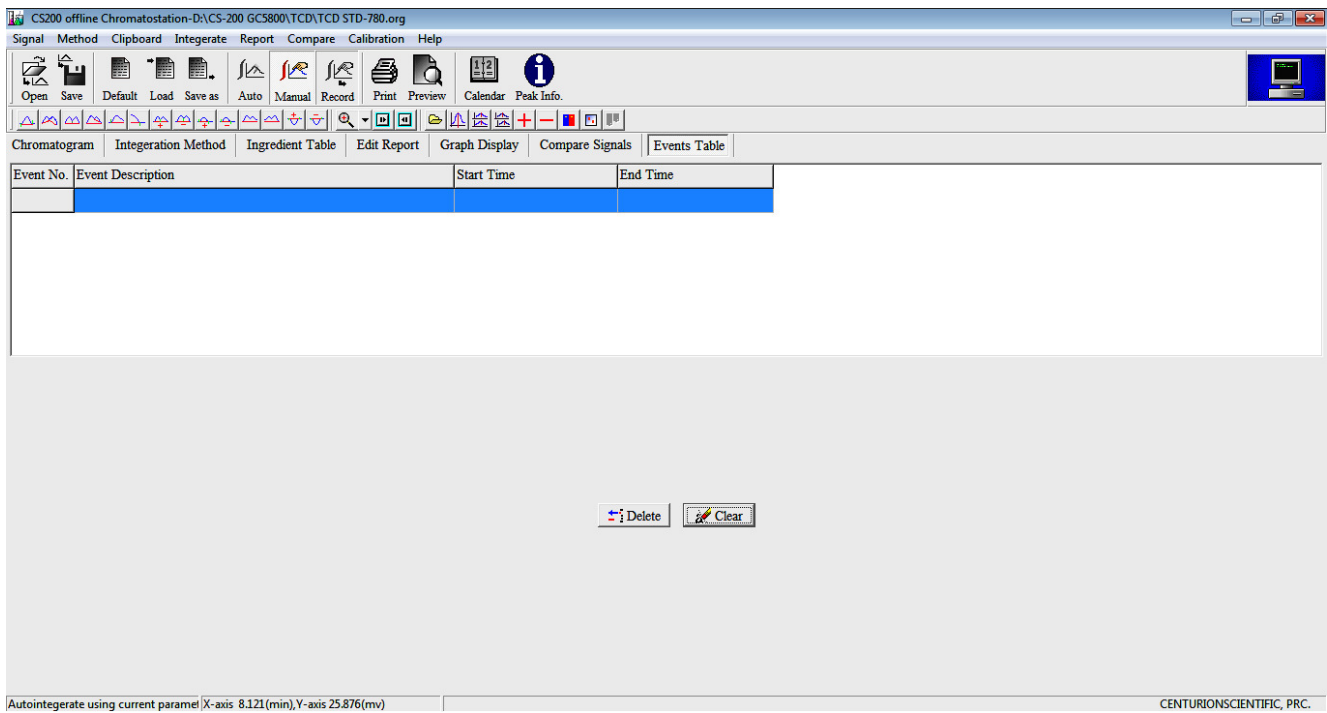

Figure D-700. The Dialog Box for Editing Event Table
4. The selected Chromatogram will be loaded and displayed as shown in Figure D-700.